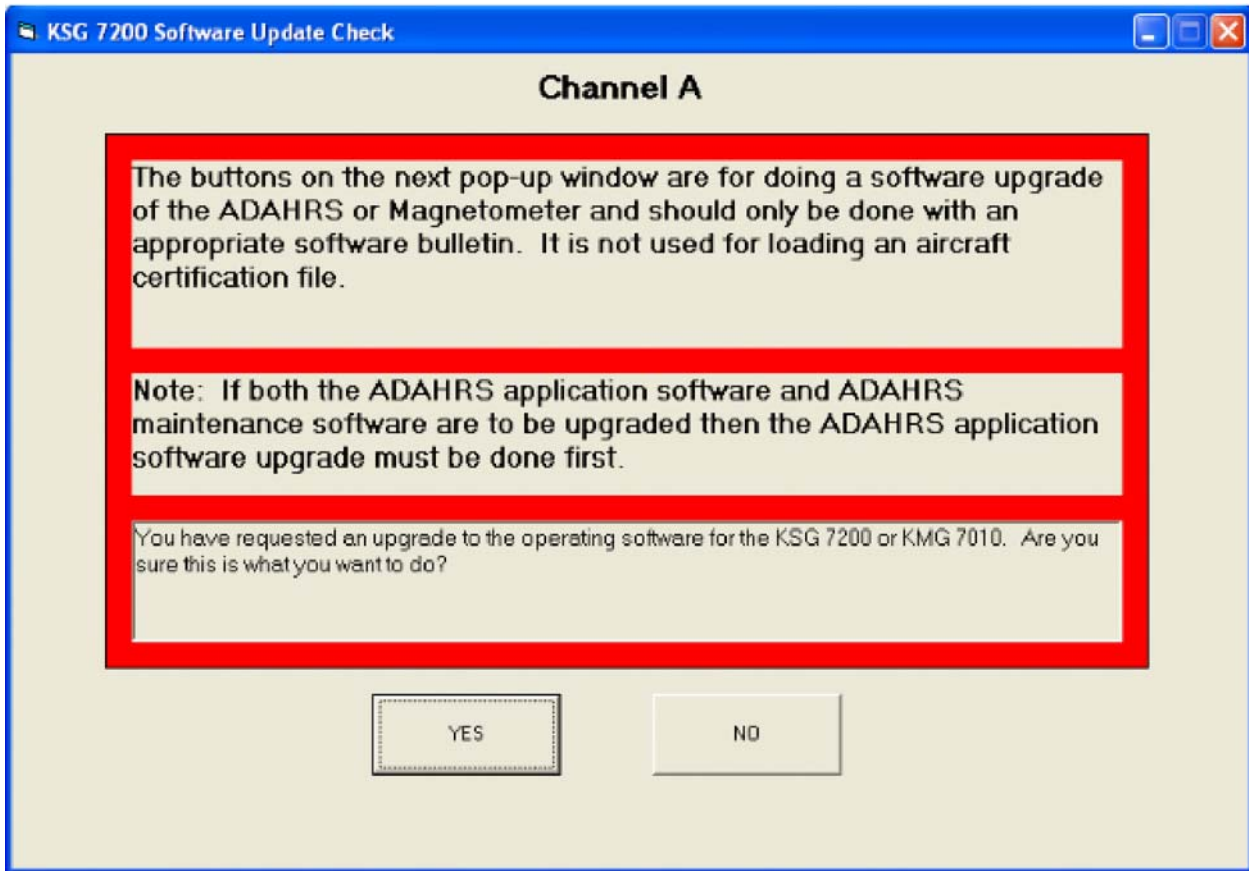

Figure 7. (Sheet 1 of 1) KSG 7200 Software Update Check Window
- (6) Click on the KSG 7200 or KMG 7010 Software Upgrade button. The KSG 7200 Software Update Check window will appear. Refer to Figure 7. After reading the message, click YES to continue with the operating software upgrade.